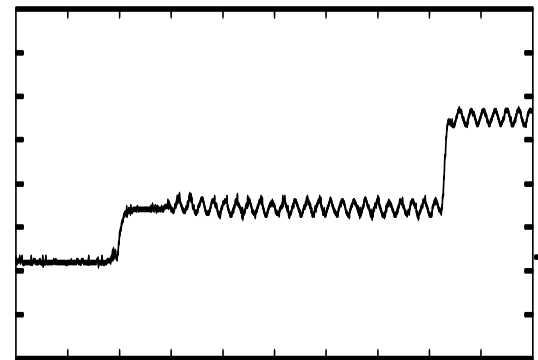

figure 3
- Lower the sweep speed to 2 $\mu\text{s}/\text{div}$. The beginning of the line is expanded, the trigger point is unchanged (line synchronization pulse) (figure 3).